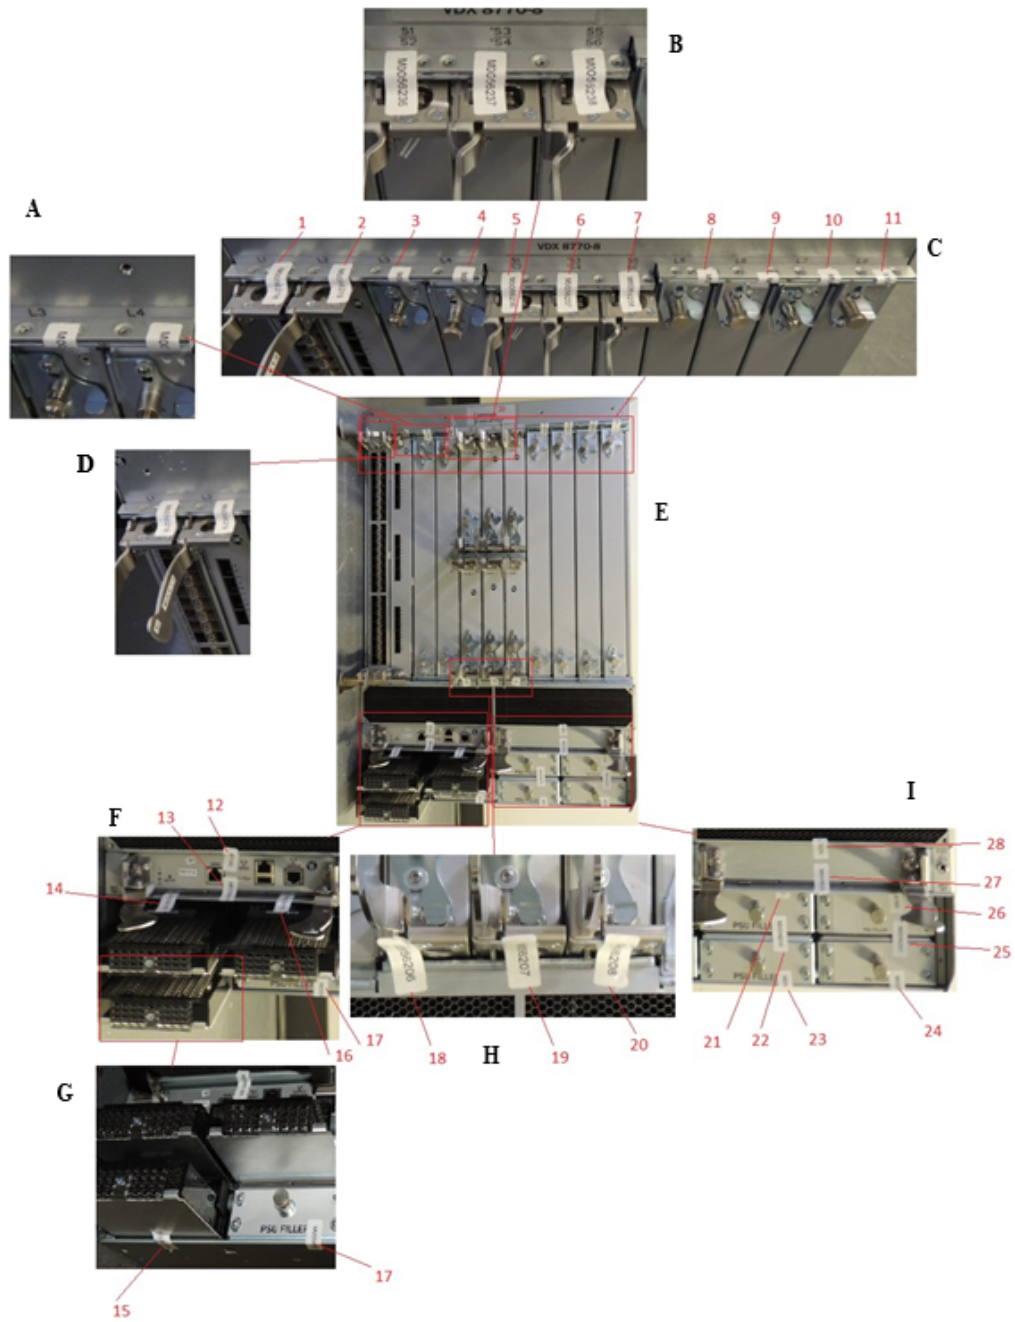

Figure 30 Brocade VDX 8770-8 DC PSU Seal Locations
Twenty-eight (28) tamper evident seals are required to complete steps 1 to 6 on the port side as illustrated in Figure 30. Unused slots must be filled with the module or filler panel appropriate for that slot to maintain adequate cooling.